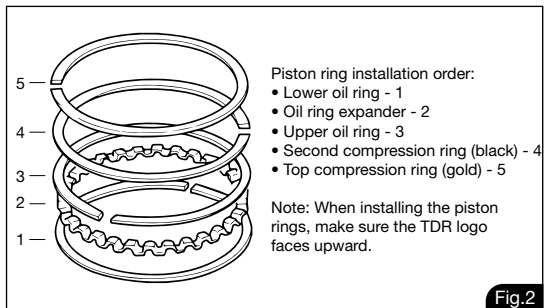

Fig.2
3. Install the piston rings onto the piston in the correct orientation. (Fig. 2)